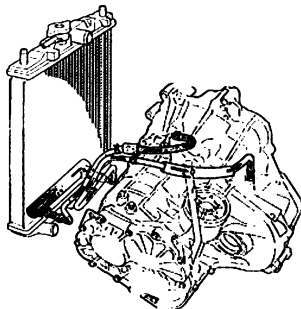

Figure 7-3
6. Connect two cooling pipes as showed in the figure 7-3 with the corresponding pipe of transmission with clip.